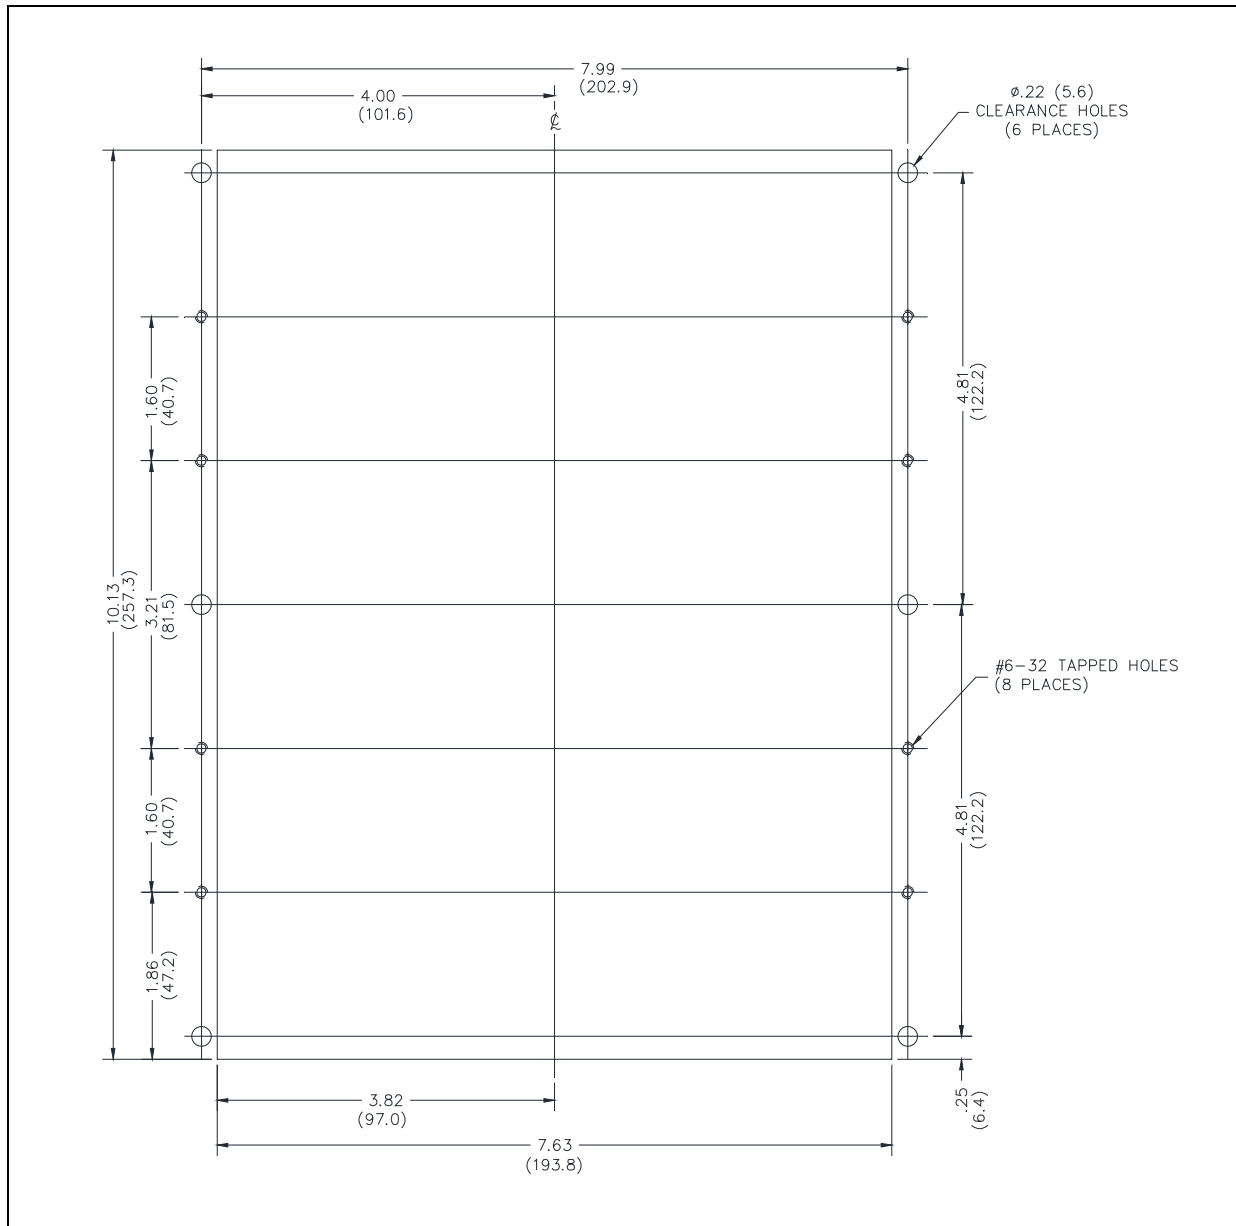

Figure 3. Flush-Mount Cutout Details
5. Mount the backbox to the structure using appropriate hardware (see Figure 3 for cutout dimensions).